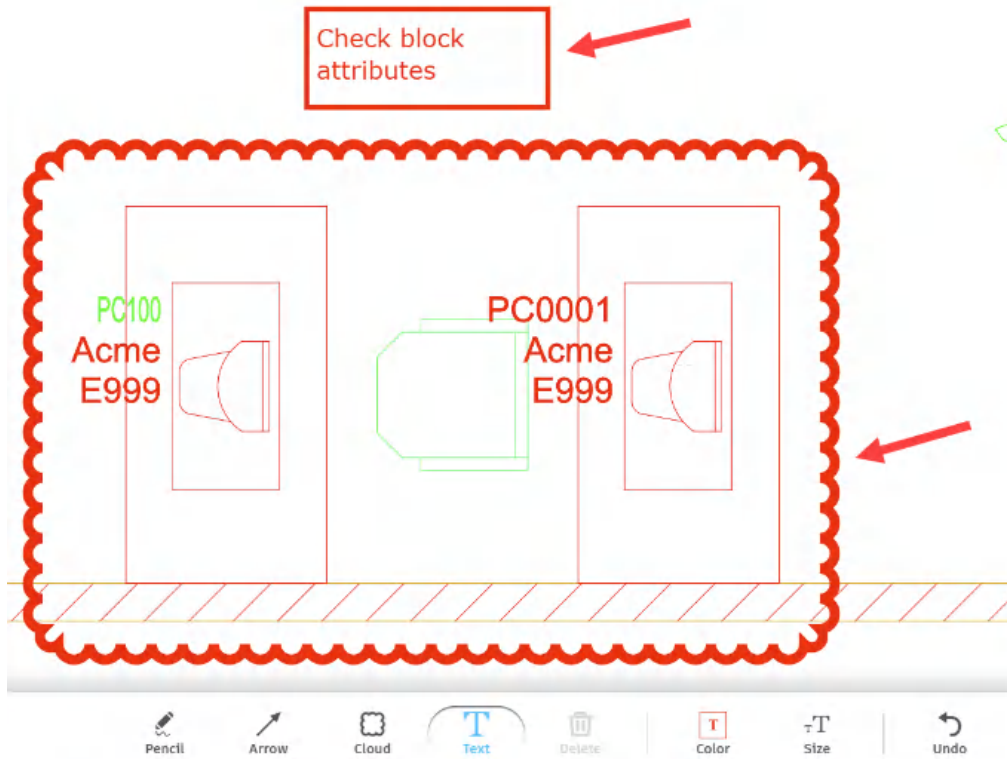

Figure 13.26: Markups added in the Autodesk Viewer
4. You can add markups to the shared view using the arrowed markup tools in the preceding figure, **Cloud** and **Text**. Add a cloud and text using these tools, as shown in *Figure 13.26*. Just drag and click to place the cloud and click and type to place the text using the default settings in the viewer. While working in the Autodesk Viewer, you will find the workflow to do this remarkably similar to working in AutoCAD.